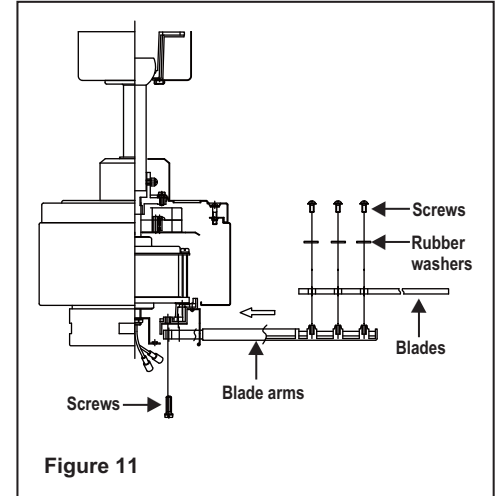

Figure 11
**Step 1.** Attach the blades to the blade arms using three screws and fiber washers as shown in Figure 11. Start a screw into the blade arm, do not tighten. Repeat for the 2 remaining screws and washers.